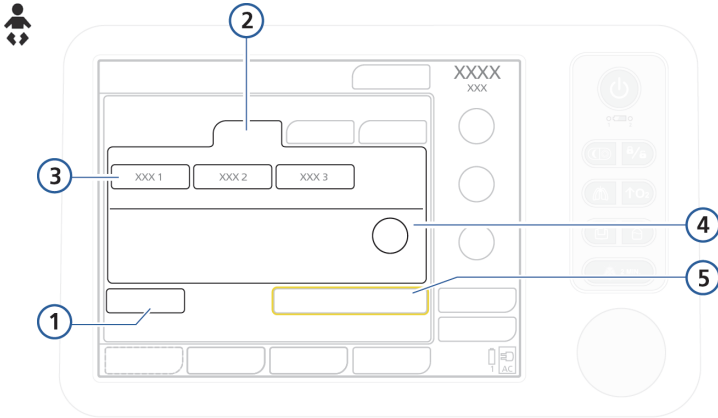

Figure 4-3. Patient setup/Standby window (neonatal)
- **Neonatal.** For neonatal patients (Figure 4-3). See Table 4-1 for age and weight ranges.